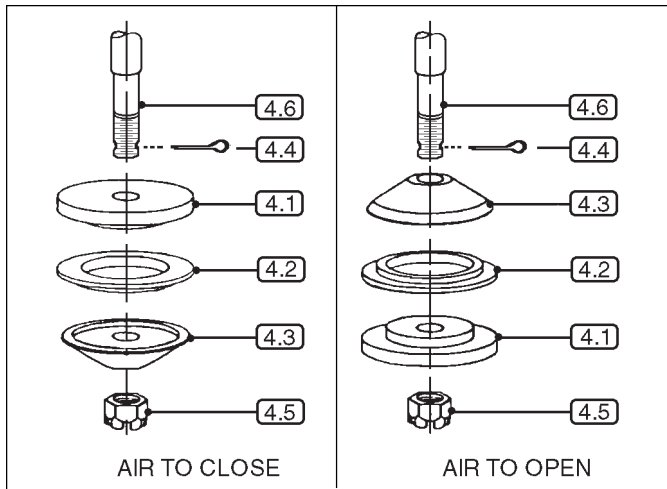
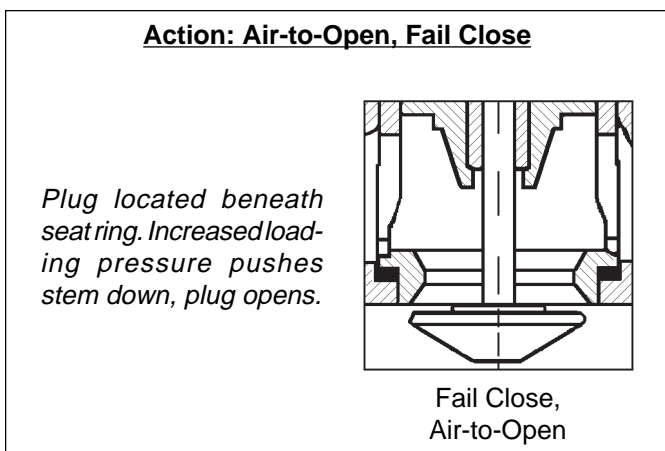

Figure 3: Composition Seat Arrangement
Figure 6: ATO-FC Action
17. Examine cage (19), seat ring (3), composition seat (4.2), stem (4.6) or plug (4) or adapters (4.1) (4.3) for wear. Replace all worn parts.
- a. Stem surface should be centerless ground and polished to approximately an 8 μ - inch finish or better in the packing (10) zone.
- b. Plug head of stem assembly (4) for metal seated design may be hand lapped using suitable lapping compound. If hand lapping will not restore surface finish to an acceptable degree, then replacement of stem assembly (4) and seat ring (3) is recommended.
- c. For composition seated design, the TFE valve seat (4.2) can be replaced if the adaptors (4.1) (4.3), cotter pin (4.4) and castle nut (4.5) are not wear damaged. Grip stem (4.6) in vise (using protective covering) directly above adaptor (4.1)(4.3). Remove cotter pin (4.4), castle nut (4.5), adaptor (4.1 or 4.3) and valve seat (4.2). Insert new valve seat (4.2) and reassemble to desired seat arrangement. *See Figure 3.*
18. Remove gaskets (5) (8), clean gasket facing surfaces and replace with new gaskets (5) (8).
19. For ATO-FC action units, place seat ring (3) and cage (19) over end of stem (4.6) in proper orientation and insert stem into the body (1)
cavity. Insert the plug & stem subassembly (4) until it appears through the top side of the bonnet (2). *See Figure 6.*
6. Remove body O-ring (8) from body (1) recess. Remove seat ring gasket (5) from body (1) recess. Clean gasket facing surfaces in body (1) and on bonnet (2).
NOTE: The changing of unit action from direct ATC-FO or from reverse ATO-FC action is accomplished not in the actuator, but in the body by reversing the orientation of the plug & stem subassembly (4) with respect to the seat ring (3). See Figures 6 and 7.
- a. With this action, the seat ring (3) and loose cage (19) are retracted from the body (1) when the actuator assembly (AA) is removed.
- b. Loosen jam nuts (22). Loosen packing flange nuts (12).